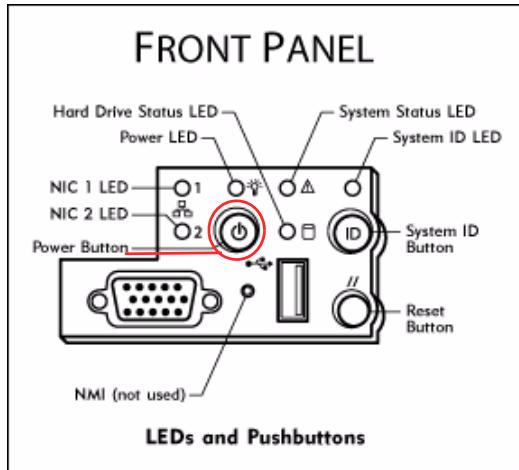

FIGURE 2-24 Power Button and Front Panel Detail
5. Press the Power button (FIGURE 2-24) on the front panel (behind the faceplate).